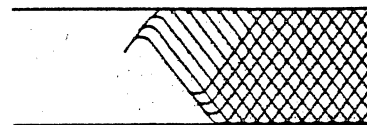

Figure 9
3. Adjust VR01 to obtain the maximum waveform (See Fig. 9)